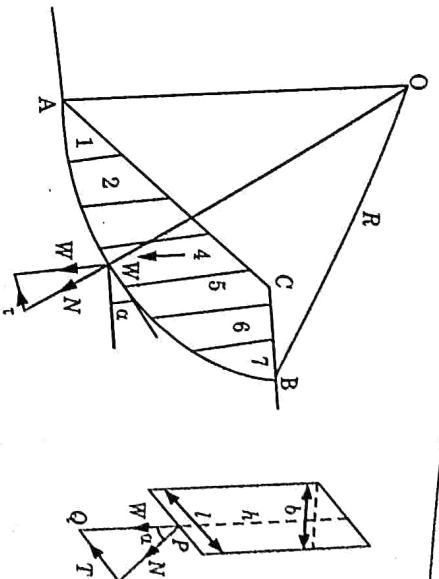

Fig. 5.17.1. c - ϕ analysis method of slices.
1. In this method, the soil mass above the assumed slip circle is divided into a number of vertical slices of equal width, as shown in Fig. 5.17.1. The number of slices may vary from 6 to 12, when hand computations are to be used.
7. The tangential component T causes the rotating moment. In the end slice, such as slice number 1 in Fig. 5.17.1, the tangential component may act in an opposite direction, causing a restoring moment.